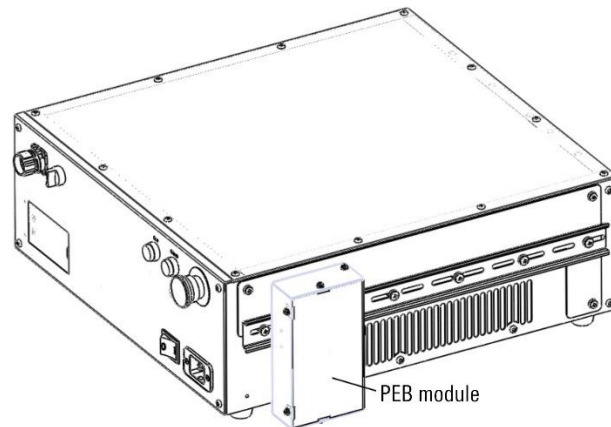

Figure 15-4 Install the PEB module on the guide rail
Step2. Install the PEB module on the guide rail through its own installation buckle, refer to Figure 15-4.